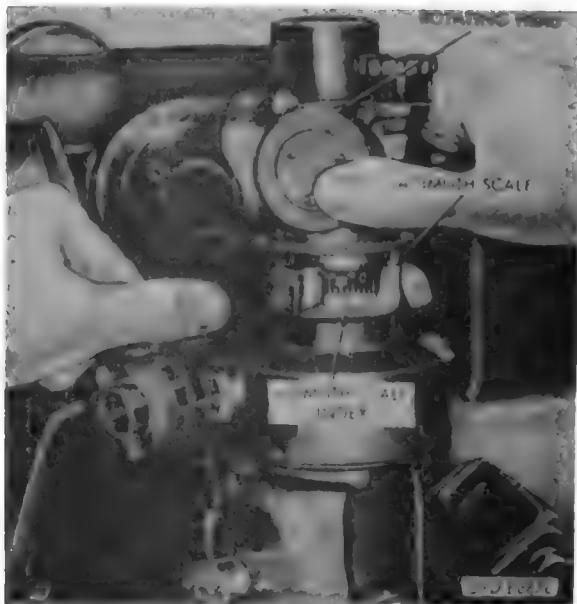

Figure 81. Slew of the rotating head by use of azimuth worm throwout lever.
(2) For rapid setting in large angles with the panoramic telescope M12A7C, push the azimuth worm throwout lever (fig. 11) against spring pressure as far as it will go. Hold the throwout lever in the disengaged position and turn the rotating head (fig. 81) until the proper 100-mil graduation on the azimuth scale appears opposite the azimuth scale index. Release the throwout lever.